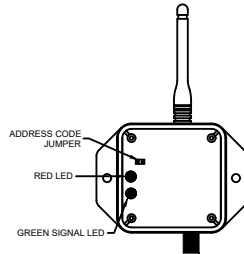

FIG. 1: RECEIVER WITH COVER REMOVED
Each transmitter and receiver pair is synchronized together at the factory. If a new transmitter is needed, synchronizing is required. Refer to Figure 1 and use the following procedure:
- Turn on the receiver. Wait until the green LED has stopped blinking and the red LED starts to blink. Then refer to Fig. 1 and place a jumper across the address code jumper inside the receiver for at least 4 seconds. The green LED will go steady inside the receiver.